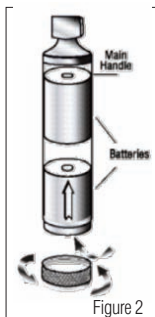

Figure 2
- 3) Replace with appropriate size battery, taking care to insert positive end first. On stubby handle, insert one battery with negative end against screw and insert second battery with positive end in first (See Figure 2).